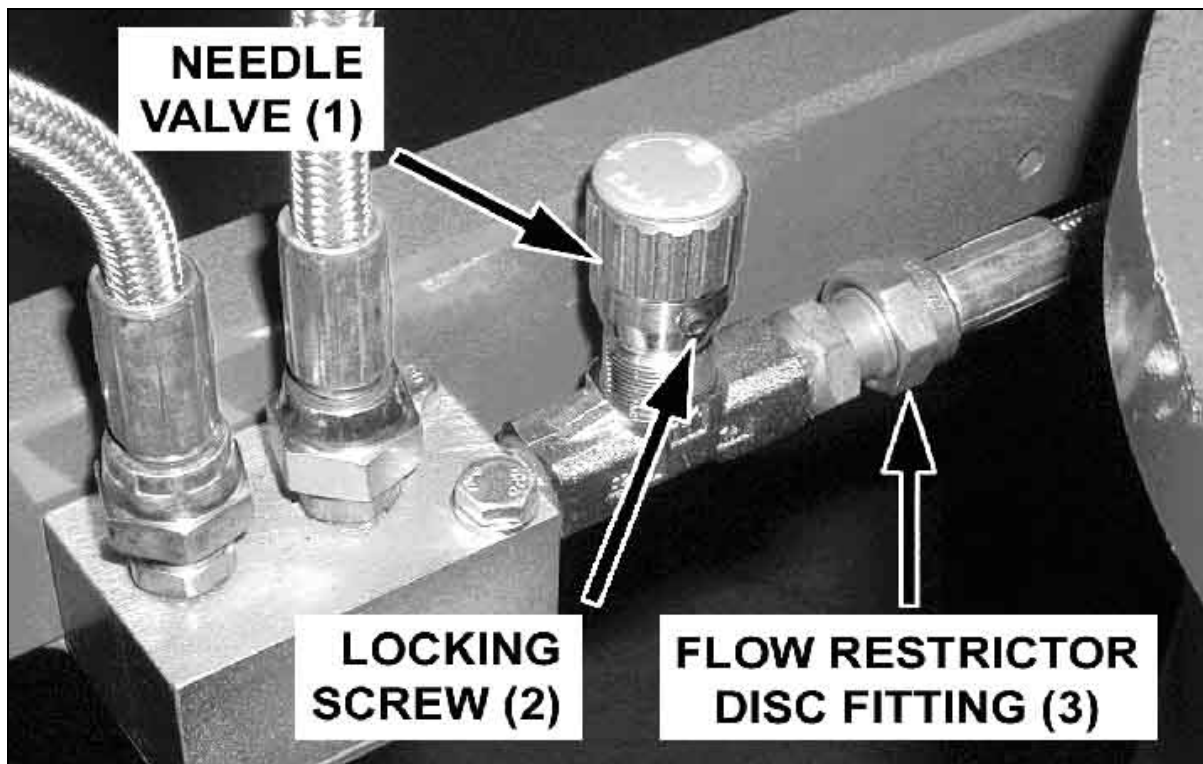

Fig. 5 – Flow Control Valve and Restrictor Fitting
1. Ensure that there is no orifice disc fitted in the feed to the sprayheads (3 in Fig. 5).
2. Set the needle valve (1 in Fig. 5) to approximately mid-position.
5. Repeat steps (3) & (4) until the correct flow rate is obtained.
6. Lock the knob of the needle valve in position, using a 2 mm Allen (hexagon) key (Micronair P/N CBP2524) to tighten the locking screw (2 in Fig. 5).
2. Remove the hose fitting from the restrictor housing (3 in Fig. 5) and fit the appropriate disc inside (ensure that any existing disc is removed first and that the non-return valve remains in position inside the housing).
6. If the flow rate is too high, replace the orifice disc with the next smaller size. If the rate is too low, replace the disc with the next larger size. Repeat step (5).